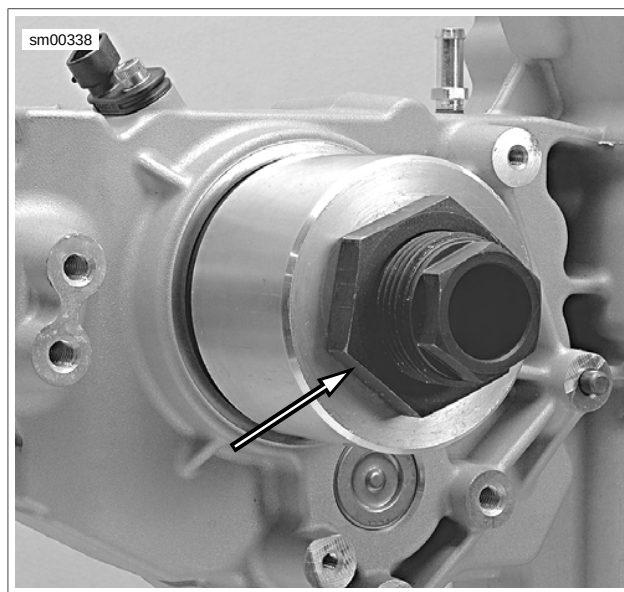

Figure 6-81. Install Nut (Typical)
6. See Figure 6-81. Thread NUT (Part No. HD-47856-5) onto end of adapter, until it tightens against installer.